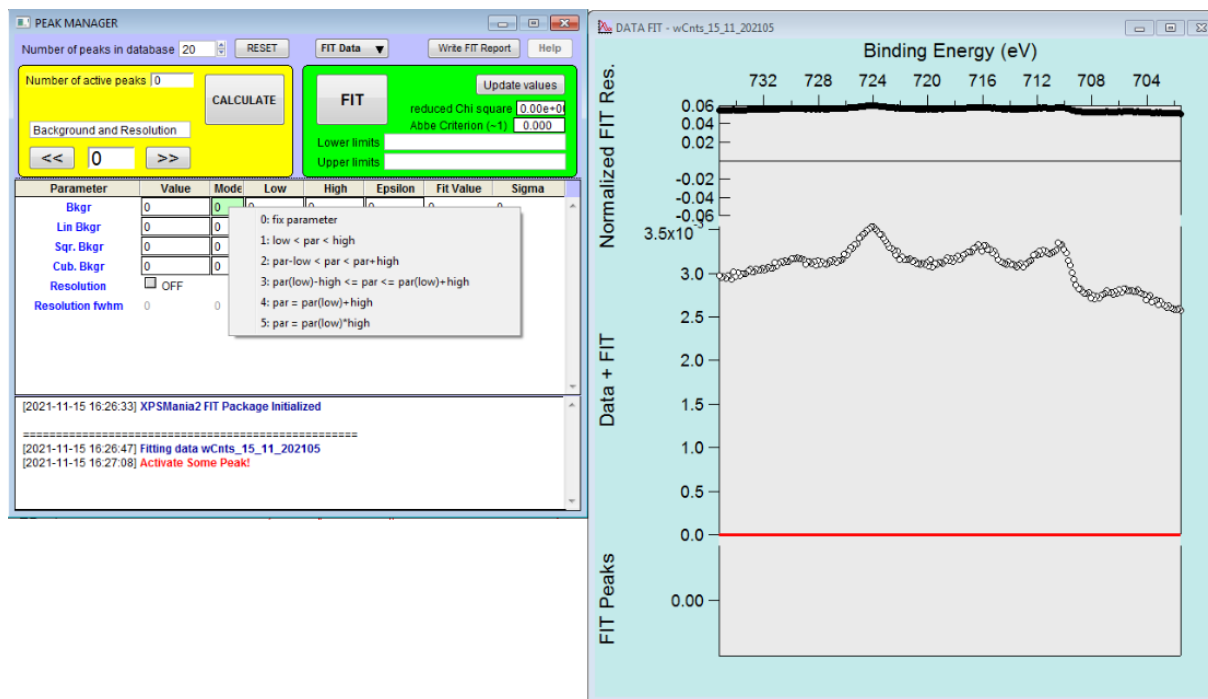

Figure 41: The XPSMania2 Panel.
3. Top menu → XPSMania2 → Initialize → Put the cursors in the spectral region you want fit → right click → XPS Mania2 Fit → Fit Between Cursors: a new panel (see fig.41) will open. XPSMania is a fitting tool that allows the use of diverse fitting functions and background subtraction methods. The value of the "Mode" field defines the restrictions on the fitting parameters, as shown in the figure.